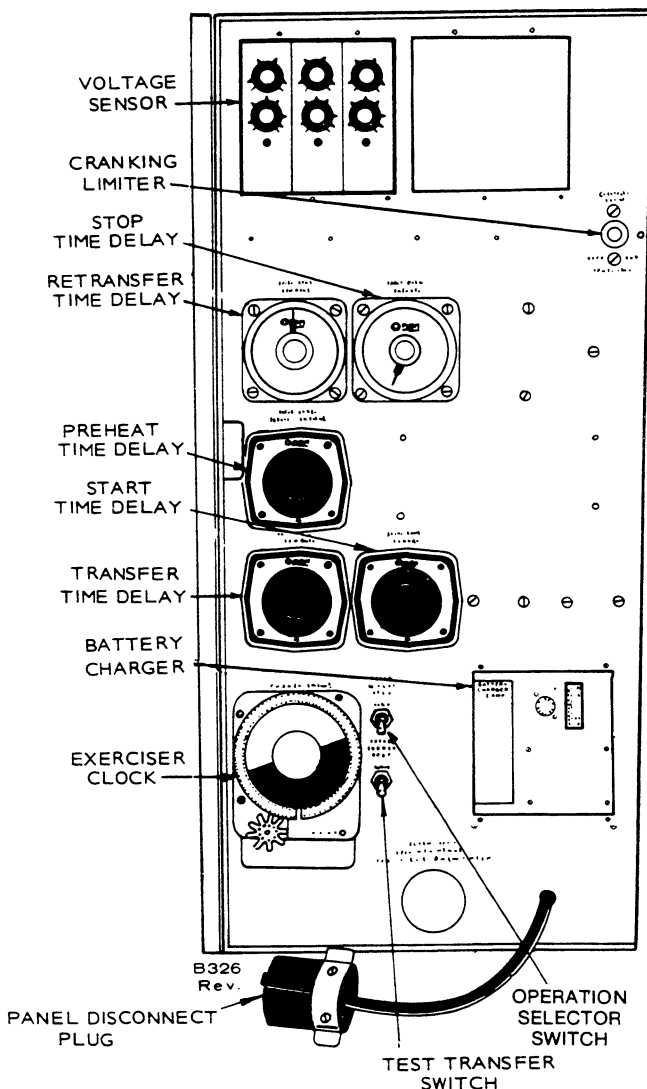

FIGURE 11. RELAY, THREE-WIRE, CONTROL ACCESSORY PANEL
The three-wire starting relay control accessory groups are similar to the two-wire relay groups (see the preceding description) except for the operation selector switch and the addition of a cranking limiter. If the application requires, a preheat time delay relay may also be included. See Figure 11.
Cranking Limiter: The cranking limiter in three-wire, relay control accessory groups is located in the upper right-hand corner of the control accessory panel as illustrated in Figure 11. The cranking limiter is an electrically operated thermal relay that protects the engine cranking circuit. The relay is energized when the start signal is sent and remains energized until the electric generating set starts. If the engine does not start in forty-five to ninety seconds, the heating element in the relay opens the starting circuit. It can be reset by allowing about one minute to cool, and then pushing the reset.
A typical control accessory panel for a three-wire, relay control accessory group is illustrated in Figure 11. The control accessory panel can be swung open to allow access to the transfer switch. Before opening the control accessory panel: (1) The operation selector switch must be moved to STOP, located on the control accessory panel, and (2) The control accessory panel disconnect plug must be removed, removing AC line voltage from the control accessory panel.